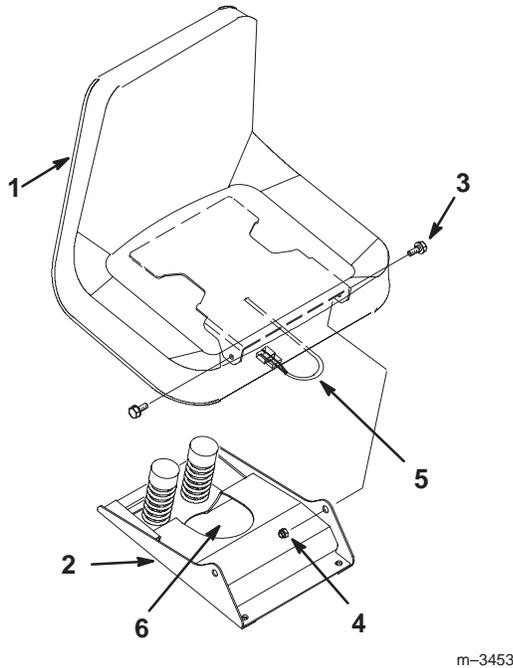

Figure 1
- Mount the seat to the seat base using two 5/16" shoulder bolts and lock nuts (Fig. 1).
- Insert the seat switch wire through the center opening in the seat base (Fig 1).